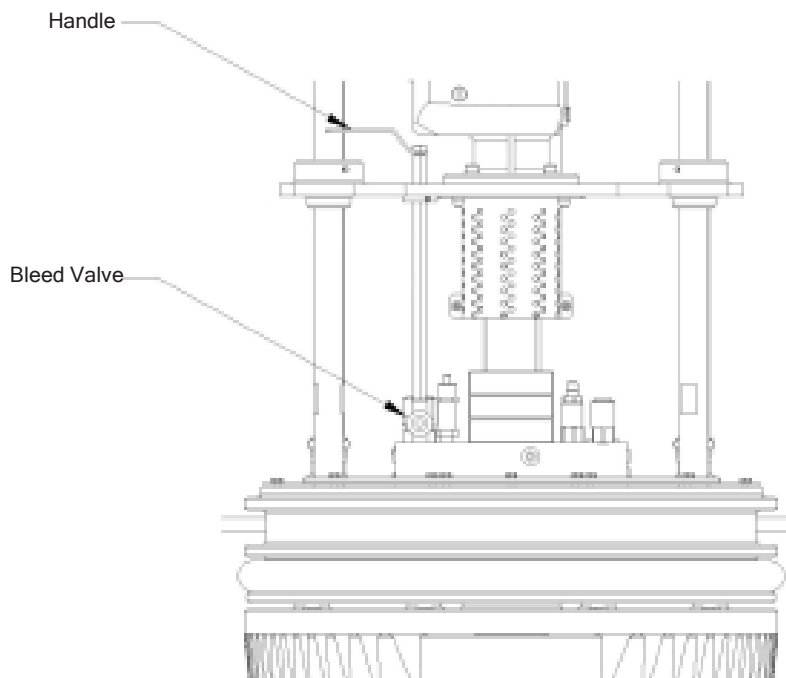

Figure 6-5. Bleed Valve Location
3. Open the bleed valve (see Figure 6-5).
5. Press the two (2) enable push buttons with two hands until the platen is inside the drum and moves automatically.